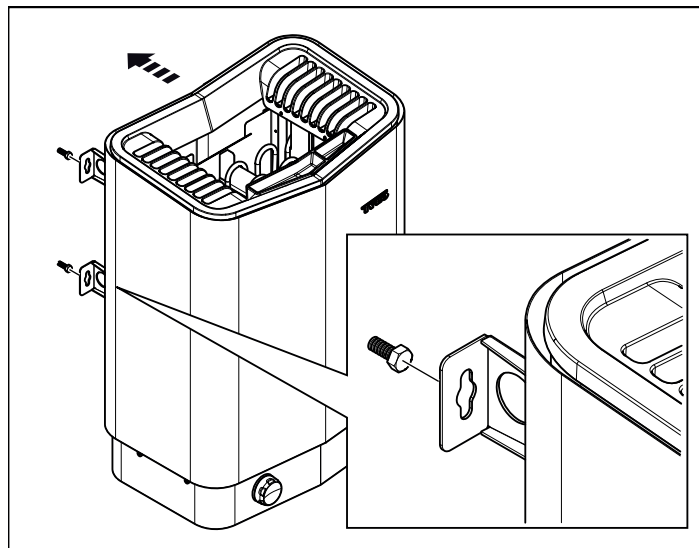

Figure 10: Hang the heater up.
8. Hang the heater on the screws see Figure 10.